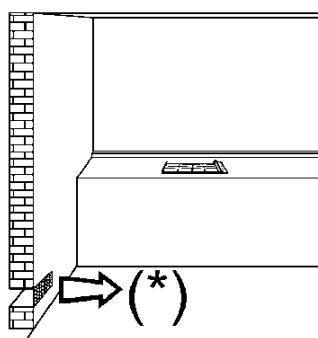
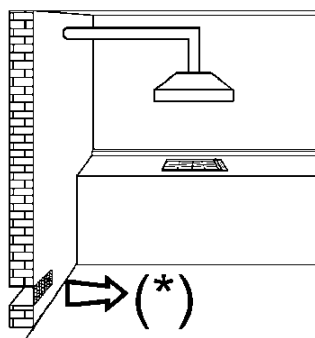
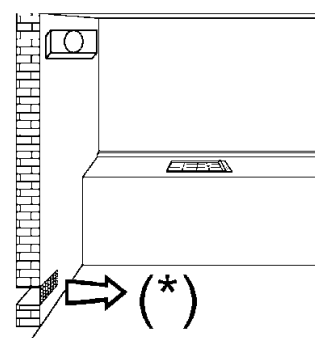

FIG. 1
FIG. 2
FIG. 3
- use of a gas cooking appliance produces heat and moisture in the room in which it is installed. The room must therefore be well ventilated by keeping the natural air vents clear (fig. 1) and by activating the mechanical aeration device (suction hood or electric fan fig. 2 and fig. 3).
directly through permanent openings made in the walls of the room to be ventilated, which lead outside and have a minimum section of 100 cm² (see fig. 1). These openings must be made so that they cannot be blocked.
Gas hobs must always eliminate the products of combustion through hoods connected to chimneys, flues or directly outside (see fig. 2). If it is not possible to fit a hood, a fan installed in a window or an outside wall can be used simultaneously with the appliance (see fig. 3), as long as the provisions concerning ventilation listed in the standards in force are strictly observed.